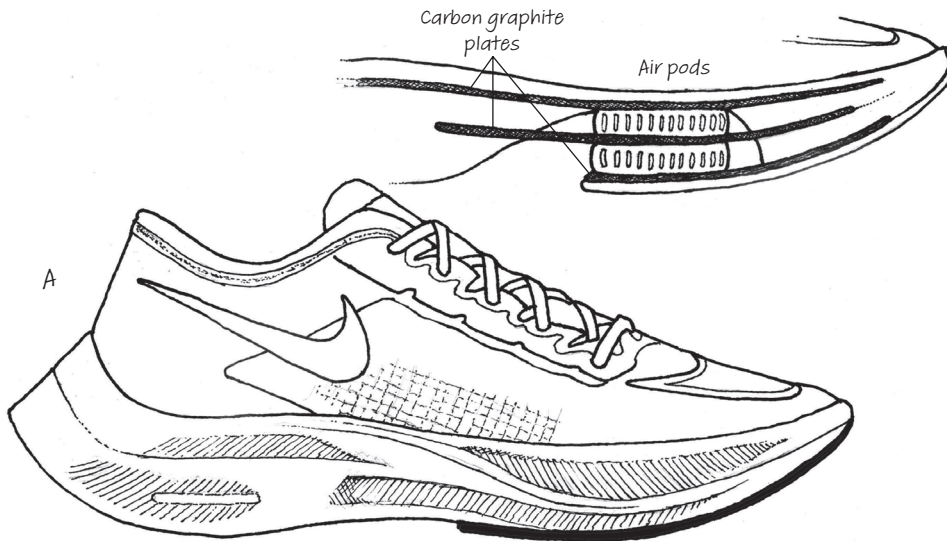

Fig. 5.10. *The Nike Vaporfly (A) has a graphite plate embedded in the forefoot between two layers of Pebax foam.*
as 4%, which translates into a 3.4% increase in speed for the world's fastest marathon runners, and a 4% improvement in speed for three-hour marathon runners (32). While shoe companies can be like politicians in that they have a tendency to tell you what you want to hear, the claims of 4% improvements in performance and economy may actually be true. In addition to weighing less than 7 ounces (200 g), the Alphaflys have special air chambers located beneath the forefoot (called “air pods”), and a graphite plate has been embedded in the midsole that can store and return energy during propulsion (Fig. 5.10). (Think of the graphite poles used in pole vaulting: They bend as the athlete is starting to ascend and then snap back again to propel them over the high bar.)